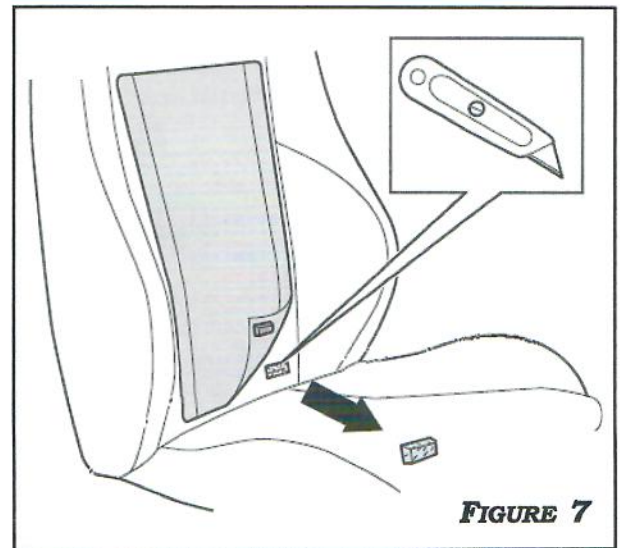

FIGURE 7
3. CUT A SMALL INCISION IN THE FOAM FOR THERMOSTAT LOCATION. **FIGURE 7**